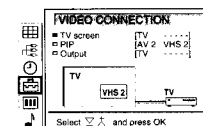

Fig. 48
- 1 Select the symbol for »Video Connection« with or and press OK. The VIDEO CONNECTION menu appears. (See Fig. 48)